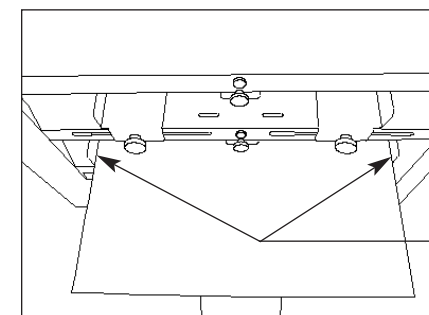

Figure 9
- Position paper guides so that side-to-side movement will be no more than 1/32". NOTE: The guides should not pinch the stock. Inaccurate feeding could result if too tight (Figure 9).